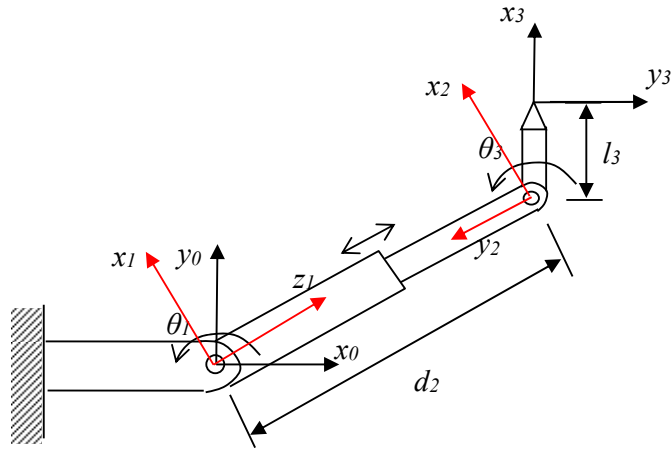

Figure 4
4. A three-degree-of-freedom RPR robot is as shown in Figure 4. The joint variables are $(\theta_1, d_2, \theta_3)$ and $l_3 = 1 \text{ m}$.